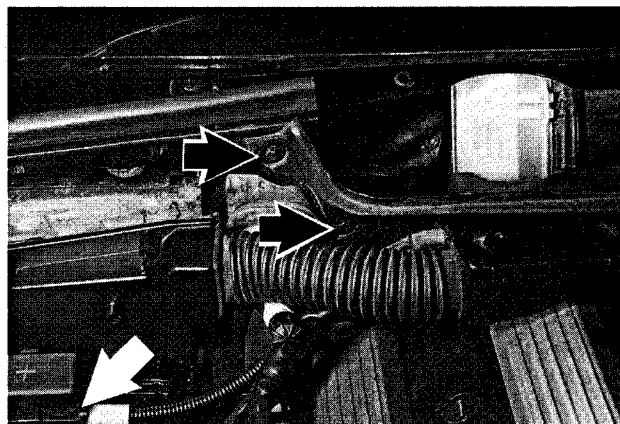

Fig. 7. Right side plenum retaining screws (arrows).
6. On passenger side of air plenum, push aside wiring harness and remove two screws retaining plenum housing. See Fig. 7.